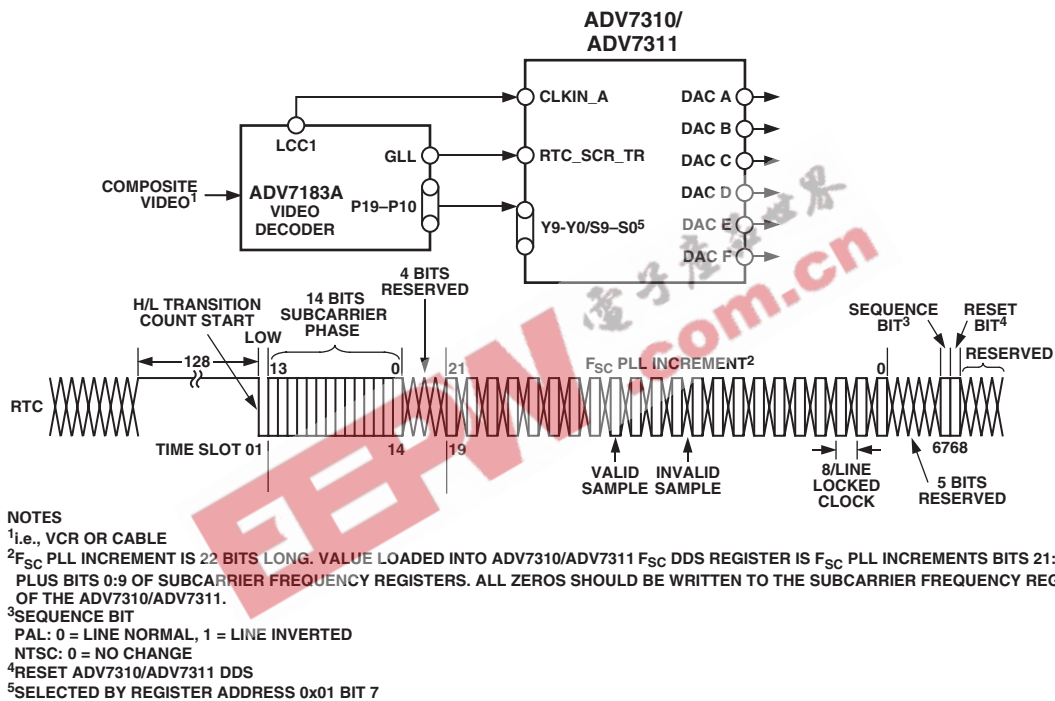

Figure 32. RTC Timing and Connections
c. In RTC mode, the ADV7310/ADV7311 can be used to lock to an external video source. The real-time control mode allows the ADV7310/ADV7311 to automatically alter the subcarrier frequency to compensate for line length variations. When the part is connected to a device that outputs a digital data stream in the RTC format, such as an ADV7183A video decoder (see Figure 32), the part will automatically change to the compensated subcarrier frequency on a line by line basis. This digital data stream is 67 bits wide and the subcarrier is contained in Bits 0 to 21. Each bit is two clock cycles long. 00h should be written into all four subcarrier frequency registers when this mode is used.
Figure 32 illustrates the  $\overline{\text{RESET}}$  sequence timing.